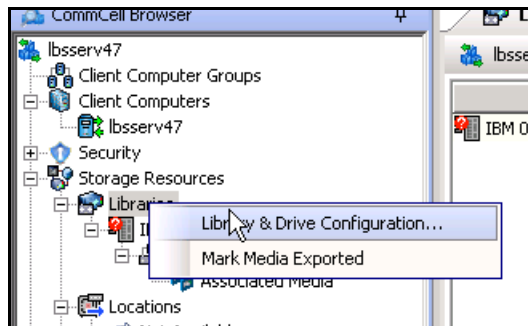

Figure 18-2 Library and drives configuration menu
2. Log on to the CommCell Console by using your administrator account and password, click the CommCell Control Panel icon, then click **Library and Drive Configuration** (Figure 18-2).